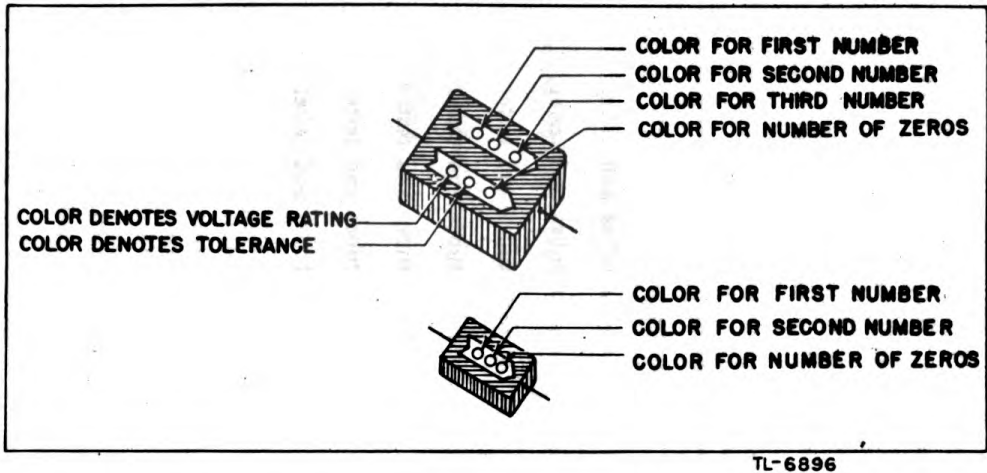

FIG. 39. CAPACITOR COLOR-CODE CHART
EXAMPLE: A 5,600 μ f. (0.0563 μ f.) capacitor of 10% tolerance and a 500-volt rating is indicated by a green dot (5), a blue dot (6) and an orange dot (3), on the top row; a red dot (00), a silver dot (10% tolerance) and a green dot (500 volts) on the bottom row, arranged in the order shown in figure 39. All capacitance values are given in micromicrofarads (μ f). Small capacitors often use a 3-dot code, shown in figure 39.
a. Model 1183-SC Combination Tester. [Model 1183-SC (C), Signal Corps stock number 3F4072-2; Model 1183-SC(J), Signal Corps stock number 3F4072-2.1].